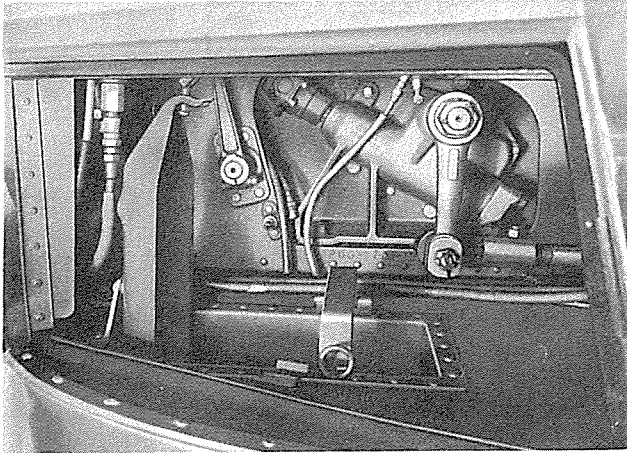

Figure 5—Steering Housing
9. Steering gear housing is accessible through tool compartment, as shown in figure 5. Working through tool compartment door, disconnect steering drag link from Pitman arm, as directed under "Steering Drag Link," later in this section.
10. Disconnect universal joint, at steering gear housing, by removing U-bolts which attach U-joint journal to tapered yoke (28). Remove steering gear propeller shaft.